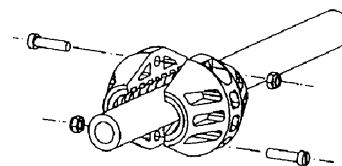

Fig. 7
2. Remove the hose stop (Fig. 7).
2. Ta bort slangstoppet (Fig. 7).
- Remove the hose stopper (Fig. 7).
- Ta bort slangstoppet (Fig. 7).